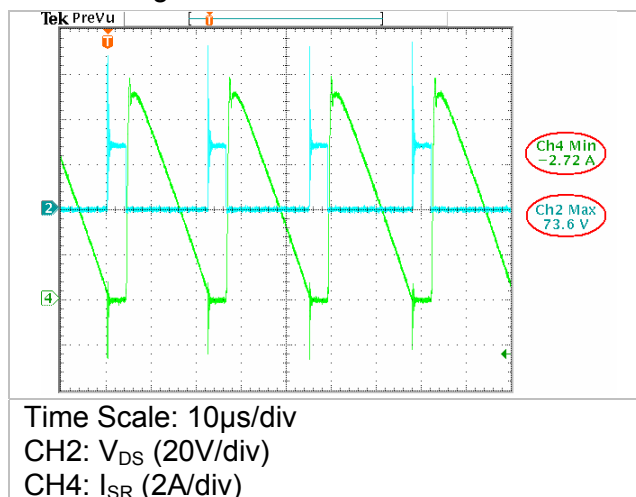
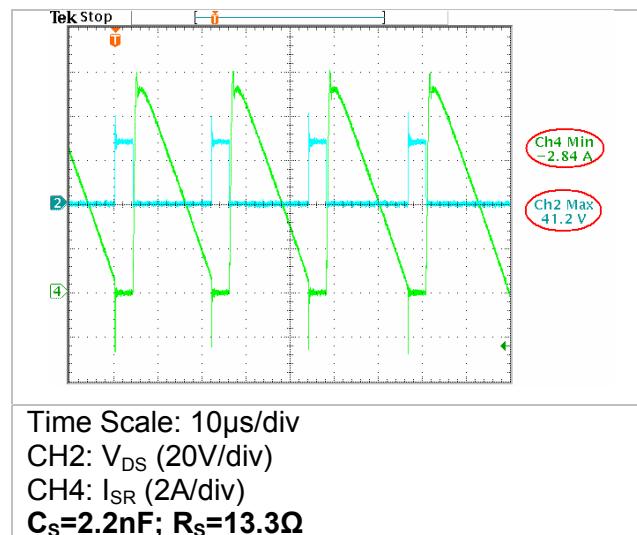

Figure 16 — Maximum Voltage Spike during Start-Up at High Line Input
Figure 17 — Maximum Voltage Spike during Start-Up at High Line Input with RC Snubber
Figure 16 shows the bench test result of the maximum voltage spike and reverse current (I_{rr}) during system start up at high-line input without RC snubber applied. Also based on the specification of this 20W Flyback converter, we can get:
From (14), R_s can be calculated which is $\sim 13.3\Omega$. So connect the RC snubber network as $C_S=2.2nF$ & $R_S=13.3\Omega$, the maximum voltage spike on SR FET during system start-up at high line input is showed in figure 17, we can find over 30V voltage spike is damped by the RC snubber compared with in figure 16.